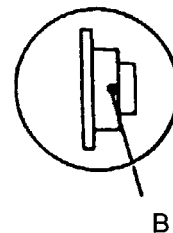

Figure 25 Position B
1. Lubricate bearing zerk with one shot of grease at each B position (13 positions). See Figure 25.